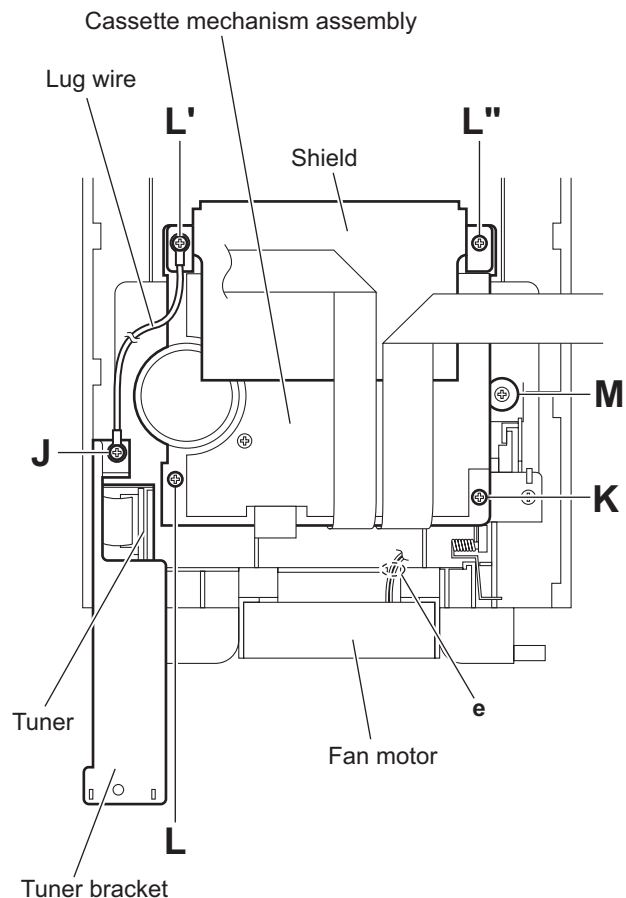

Fig.10
When attaching the fan motor, pass the wire through the slot **e**. (See Fig.10.)
- From the inside of the top cover assembly, remove the screw **J** attaching the tuner bracket. (See Fig.10.)
3.1.7 Removing the cassette mechanism assembly (See Fig.10)
- Remove the rear cover, side panels(L)/(R) and top cover assembly.